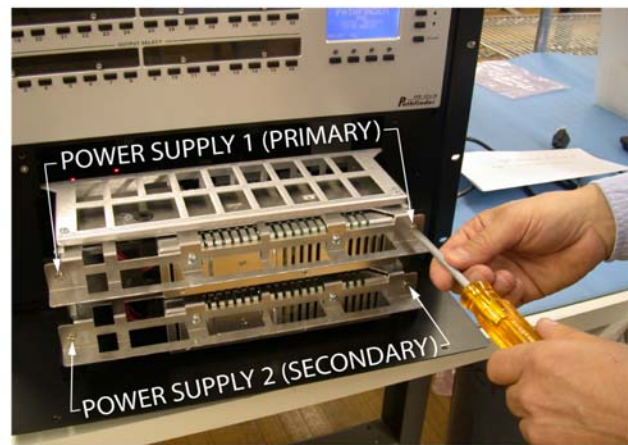

FIGURE 2
- 5) Loosen fully the two screws retaining the defective power supply as shown in figure 2. Note the top supply is Power Supply 1 (Primary). The bottom supply is Power Supply 2 (Secondary).
- 11) Connect a suitable DC voltmeter to the new power supply's voltage monitor port by inserting the probes through the grommetted holes in the power supply frame as shown in figure 2.